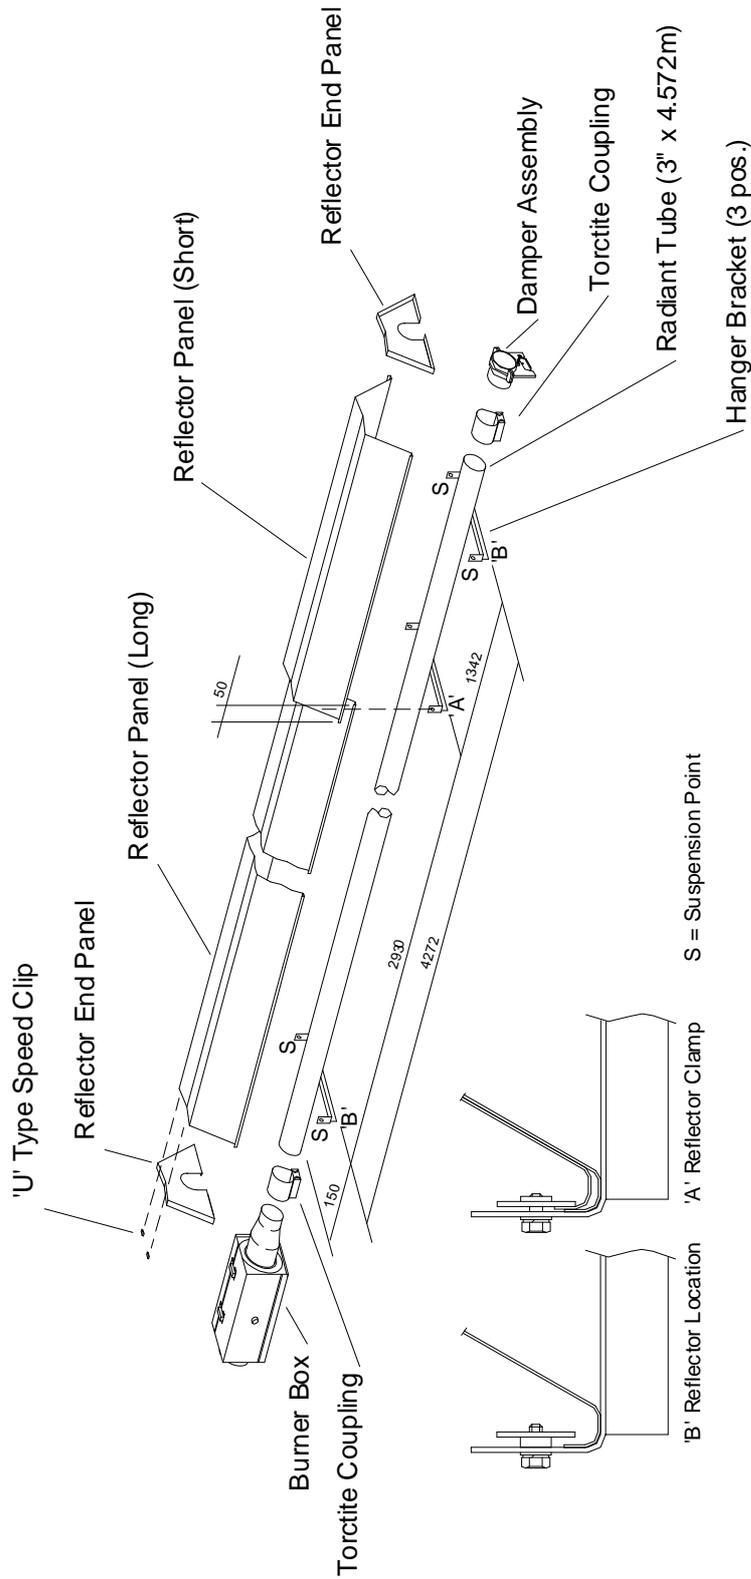

Fig. 22
4.5.2 Place the Radiant Tube on trestles, providing 150mm minimum clearance above the floor and assemble the three Hanger Brackets to the Radiant tube using one U bolt per bracket (fastening pack) and position along the Radiant Tubes as shown in Fig. 22. Ensure that the welded seam of the tube is in contact with the Hanger Bracket, i.e. facing away from the reflector. Tighten the nuts sufficiently to retain the Hanger Brackets. Do not overtighten.
4.5.5 Place the two Reflector Panels onto the Hanger Brackets and position to provide a 50mm overlap, arranged equally about the inner Hanger Bracket (see Fig 22.). Clamp the two Reflector Panels to the inner Hanger Bracket using two Retainers and M6 setscrews and washers (fastening pack). Screw the remaining (4) Retainers to the two outer Hanger Brackets to provide location for the Reflector Panel ends as shown in Fig. 22.
4.5.6 Position one Reflector End Panel over the Radiant Tube and into one end of the Reflector Panels, with the End Panel flange flush with the end of the Reflector Panel. Secure the Reflector End Panel to the Reflector Panel by use of six 'U' type speed clips provided (fastening pack): 2 clips per facet of Reflector Panel, as shown in Fig 22.
4.5.7 The appliance should now be raised and suspended from previously fixed chains or drop rods as detailed in Section 3.1., at suspension points indicated in Fig. 22. Rope or webbing slings should be used when lifting from above. If using a forklift to position the appliance, ensure that it is balanced on the forks prior to lifting.